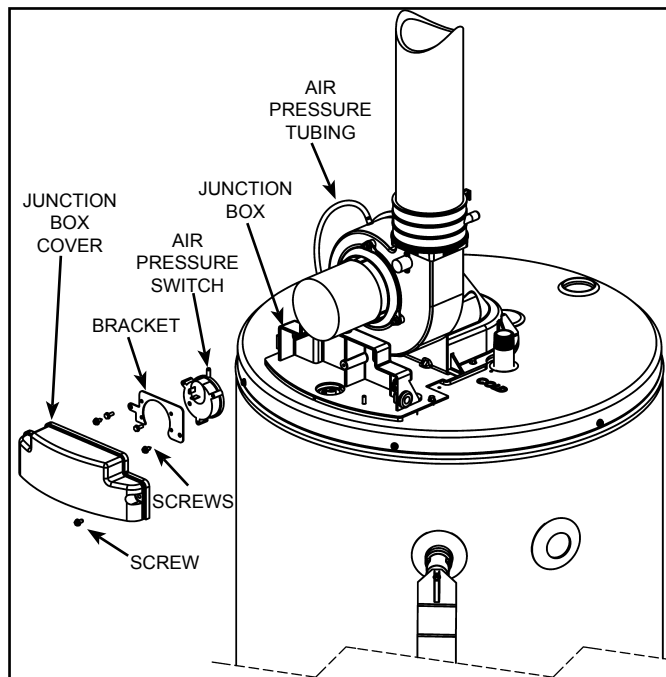

Figure 30
4. Use a 1/4" nutdriver or 1/4" socket & ratchet to loosen the screw on the junction box. Remove and retain the screw and junction box cover (see Figure 30).
6. After noting the position of each electrical flag terminals, remove the two (2) electrical flag terminals from the switch by pulling outward and off the switch.
7. Using a hex head screwdriver, remove and retain the 2 screws securing the bracket to the junction box (see Figure 30).
8. Using a hex head screwdriver, remove and retain the 2 screws securing the pressure switch to the bracket (see Figure 30).
1. Using a hex head screwdriver, secure the new pressure switch to the bracket with the screws removed in step 8 above. Care should be taken to ensure the proper orientation of the bracket and pressure switch (see Figure 30).
2. Using a hex head hex screwdriver, secure the bracket to the junction box with the screws removed in step 7 above (see Figure 30).
3. Reattach the two (2) electrical flag terminals by pushing the flag terminals onto the switch. Care MUST be taken to ensure that each of the electrical flag terminals is in its original position.